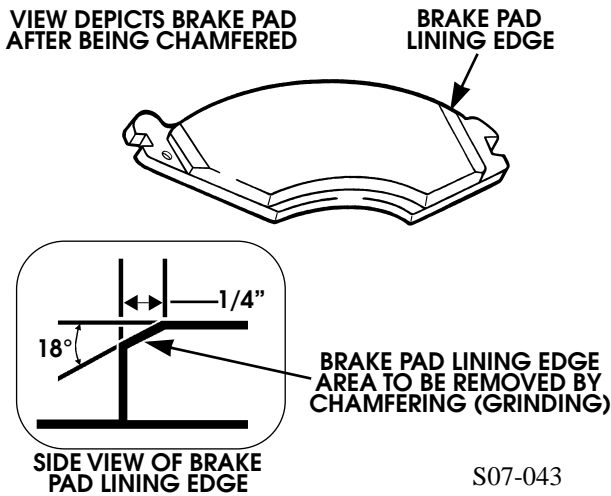

Figure 7-2: Chamfering Brake Pad
2. Chamfer (grind or file) the brake pad lining edges. Ensure both brake pad lining edges are chamfered on each of the eight brake pads (Figure 7-2). Make sure pads are flat and even.